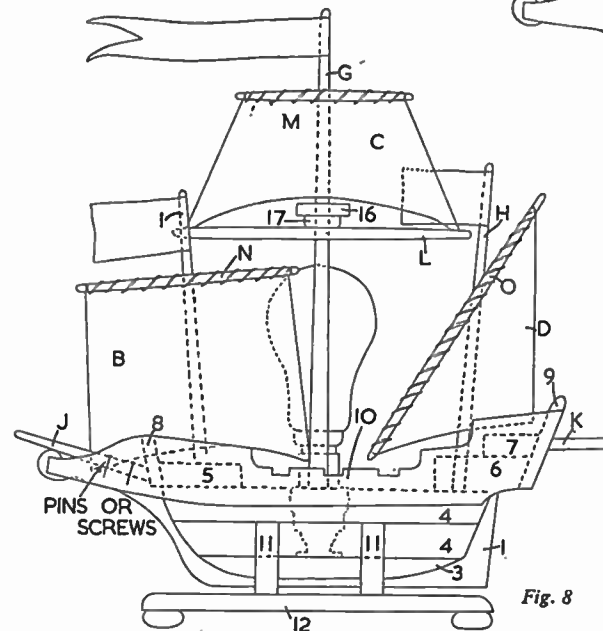

Fig. 8
Bore holes in the deck to take the three masts. Note that the foremast slopes forward and the mizen-mast slopes backwards, the mainmast in the centre being upright. Suggested slopes are shown in Fig. 8. Glue the masts, bowsprit (J) and boom (K) in their re-
by cord to the appropriate spars, which are then tied to the masts (Fig. 8). Attach cords to the lower corners of the sails and tie off to any convenient position, such as on mast or boom, but so as to ensure the desired set to the sails. Flags and pennant should also be fastened in place by cord.